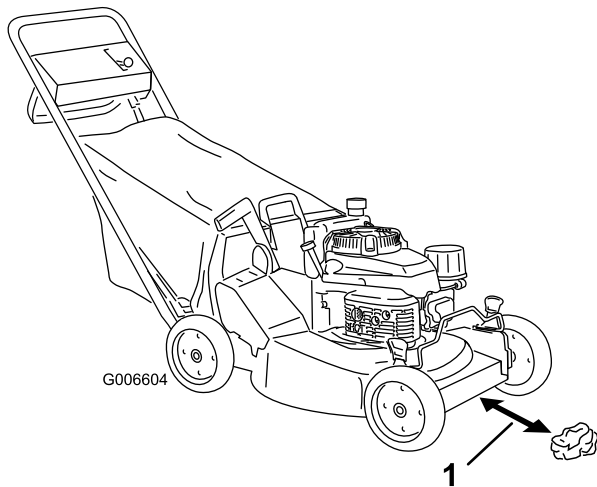
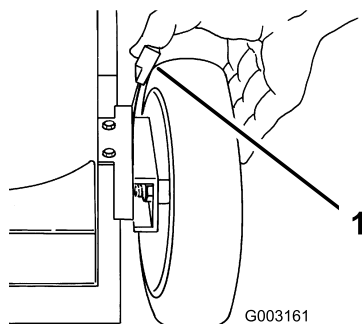

Figure 15
Figure 20
3. Set all 4 wheels in to the 2-1/2 inches (64 mm) cutting height setting (Figure 20).
4. Set the ground speed selector to the Neutral (N) position.
5. Take a half sheet of newspaper and crumple it into a ball small enough to go under the deck (about 3 inches or 76 mm in diameter) as shown in Figure 15.
6. Place the ball of newspaper 5 inches (12.7 cm) in front of the lawn mower (Figure 15).
- A. Place the ball of newspaper 5 inches (12.7 cm) in front of the lawn mower (Figure 15).
1. Pull the wheel height adjustment lever toward the wheel (Figure 20) and move it to the desired setting.